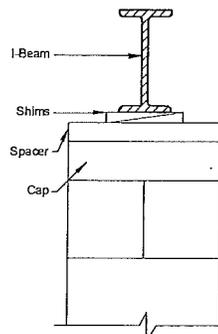

Figure 17. Correct shim placement
4. **Install shims.** Use shims to level the home and fill any gaps between the base of the I-beam and the top of the pier cap. Always use shims in pairs (Figure 17). Drive them in tightly so they do not occupy more than one inch of vertical space. When the space to be shimmed is greater than one inch and less than the minimum thickness of available caps or concrete blocks, use hardwood dimensional lumber (two inches maximum thickness) or 4" thick concrete block. For split caps, install shims and dimensional lumber/blocks over each individual cap. Two cap blocks may be used as the cap on double block piers provided the joint between the cap blocks is perpendicular to the joint between the open cell concrete blocks and is also perpendicular to the I-beam supported by the pier.